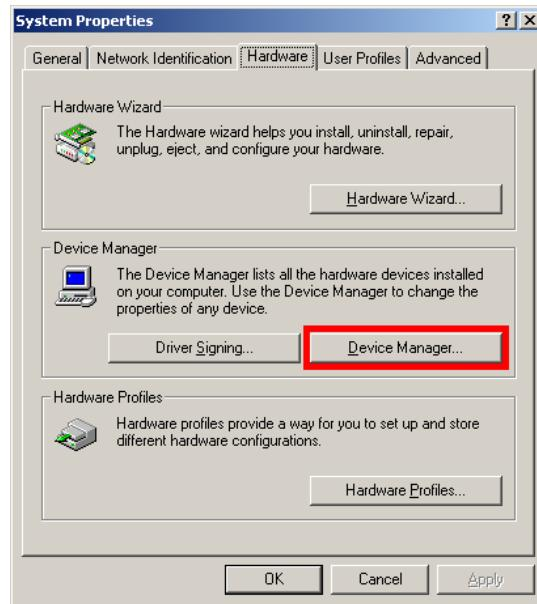

Figure 7-14: Device Manager Tab
Step 3: Click the Device Manager tab (Figure 7-14).